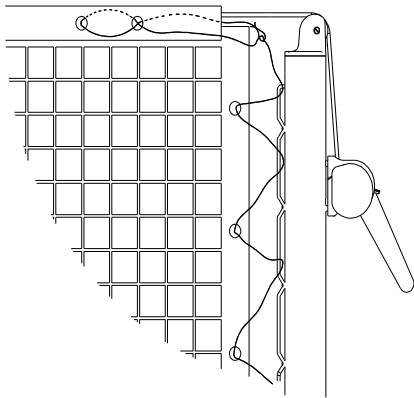

FIG. 6
6. Install lacing cord at each end by making a 2" knotted loop on one end of the lacing cord. Run the other end through both grommets in the tennis net headband and around the post, through the 2' loop and back around the post in the opposite direction. (FIG. 6)